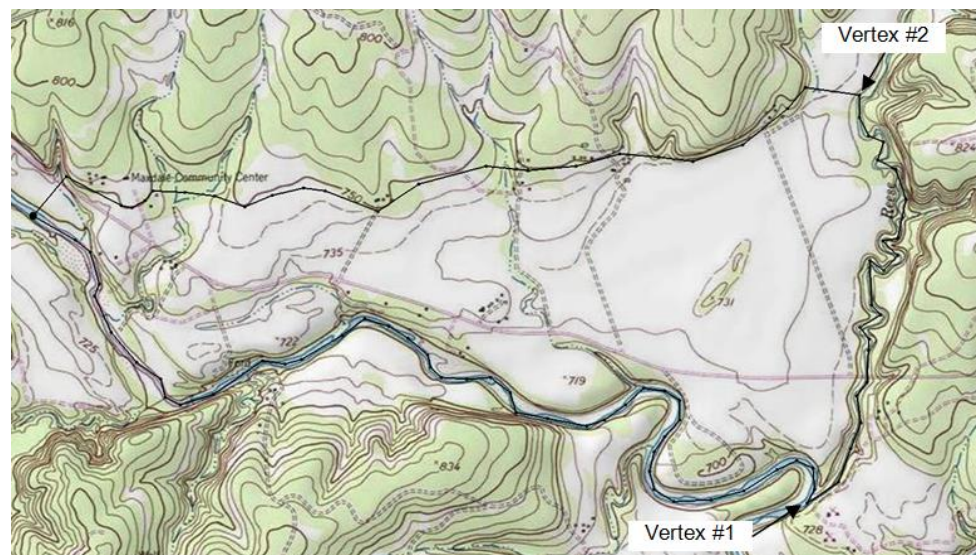

Figure 4 Convert vertices to nodes
2. Using the **Select Vertices**  tool, select the two vertices shown in Figure 4 by selecting one of them, then holding down the *Shift* key and selecting the other one. Vertex #1 is located at the junction of the two rivers. Vertex #2 is located at the top of the river on the east side of the model.